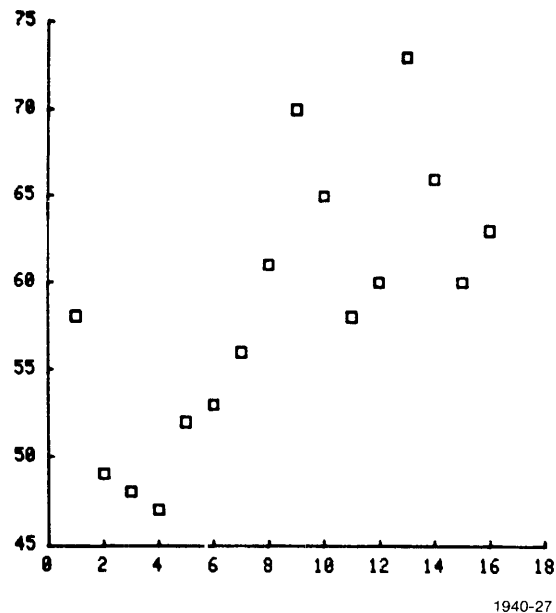

Figure 4-9. Y Only Data Plot in Point Plot Mode with Square Plot Symbols.
Here we have a real mini-menu, only two items. The Line Plot Mode is the default condition we've been using. We're still in the Square Symbol Mode from menu item 11. Let's stay with the square symbols and combine them with the Point Plot Mode (Figure 4-9).
Figure 4-9 shows the same graph, but the plot symbols are plus signs.